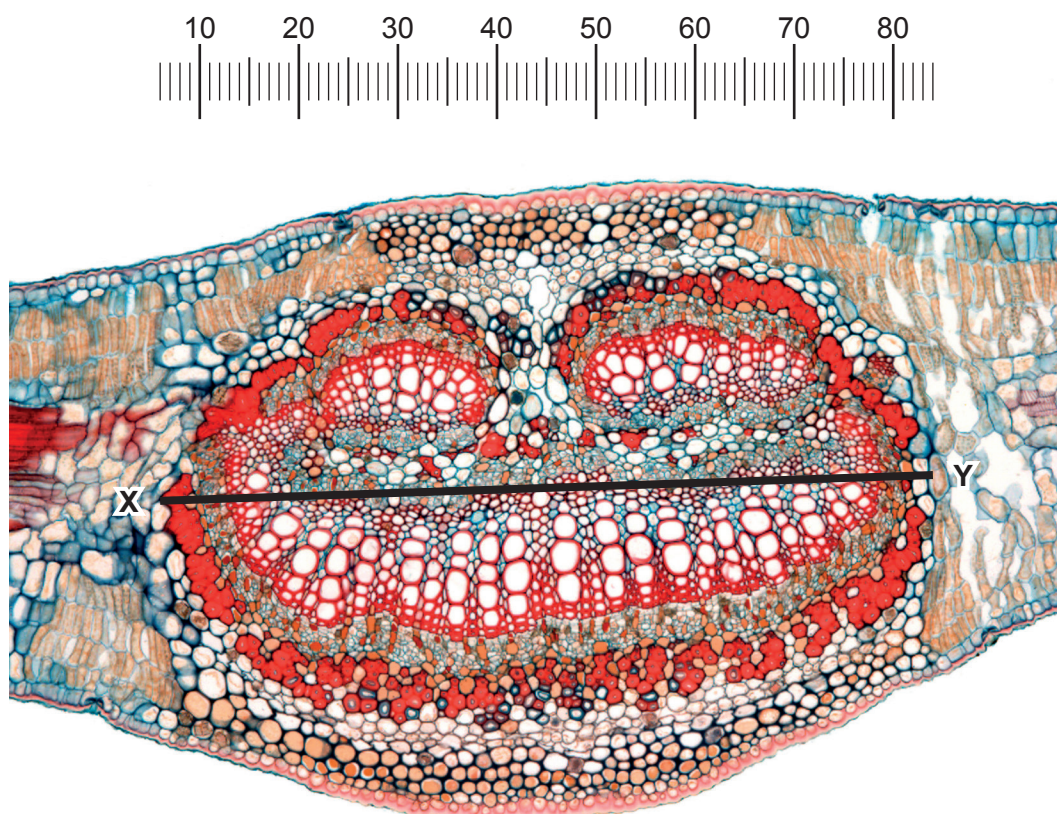
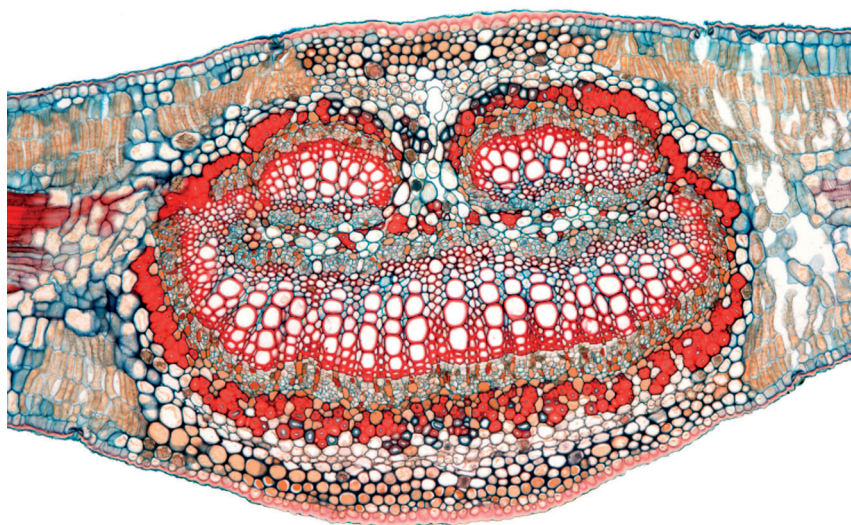

Fig. 2.2
Fig. 2.3
- (b) Fig. 2.2 is a photomicrograph of a stained transverse section through the midrib of a leaf of a different type of plant.
An eyepiece graticule scale is shown on Fig. 2.2.
- (i) Use the calibration of the eyepiece graticule on Fig. 2.2 to calculate the actual width of the vascular tissue, shown by line X–Y.
- (c) Fig. 2.3 is the same photomicrograph as in Fig. 2.2 but without line X–Y and the eyepiece graticule scale.
Prepare an appropriate table so that it is suitable for you to record the observable differences between the midrib of the leaf on **L1** and Fig. 2.3.